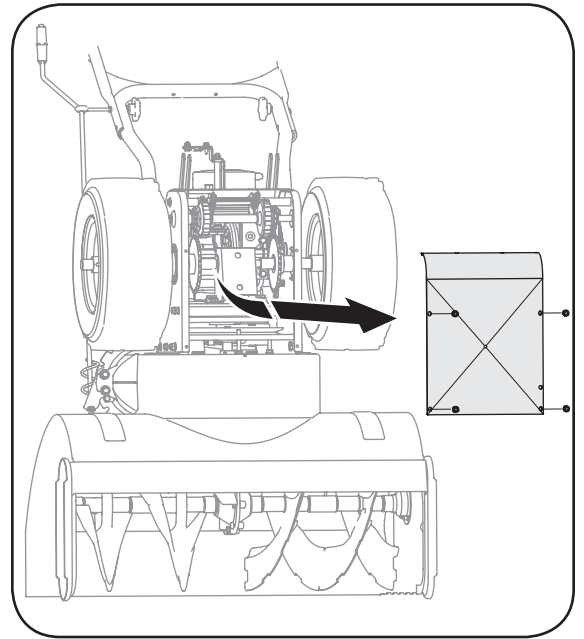

Figure 16
3. Remove the frame cover underneath the snow thrower by removing the self-tapping screws. See Figure 16.